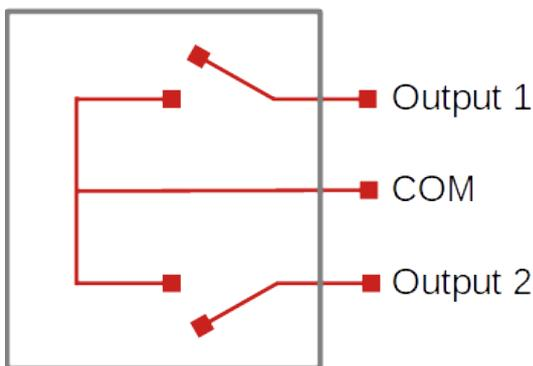

Figure 8 Isolated outputs diagram
- The output counts with two isolated/potential-free signals to command a recloser or two contactors having the same common point (phase or neutral), as it can be seen in Figure 8.